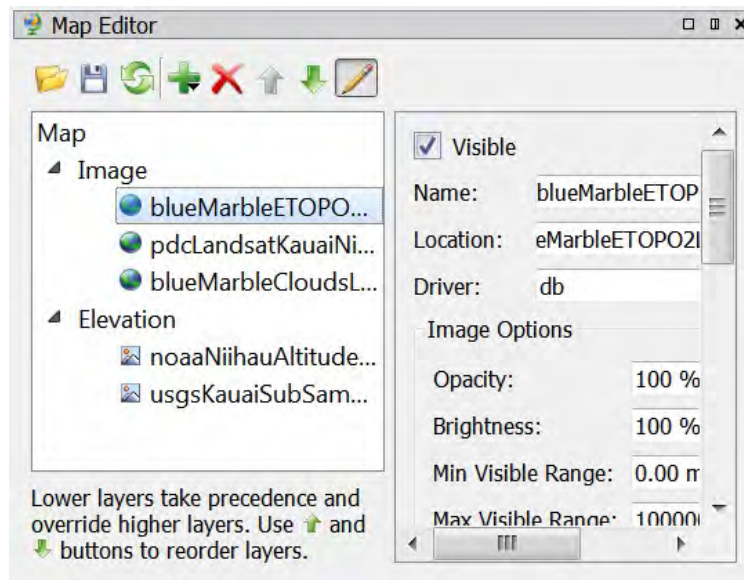

Figure 5.27: Map Editor Dialog
**Map Editor** is the primary tool used to add, remove, and manage display properties of imagery and terrain data. (see Figure 5.27). Chapter 6 has detailed information on terrain and imagery. The tool may be accessed in two ways: